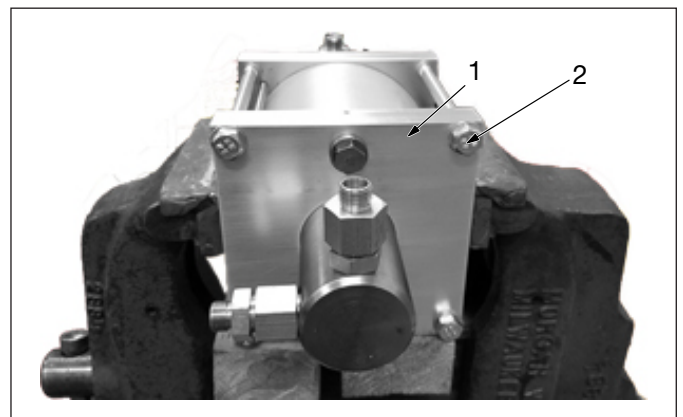

Figure 2, Tie Rod Removal (View 1 of 2)
2. Remove four tie-rods (Figure 2, Item 2) from piston rod assembly (Figure 2, Item 1).
- Install four tie-rods (Figure 2, Item 2) on piston rod assembly (Figure 2, Item 1).